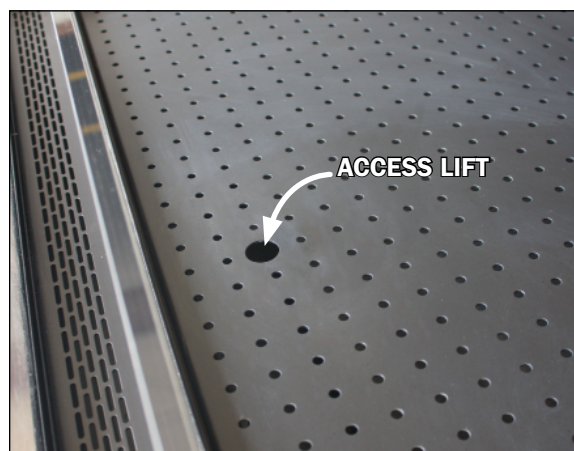

Fig. 9 Base deck pre-drilled access lift
2. To reach the fans and pressure plate first remove the base deck with help of the pre-drilled access lift supplied (Fig. 9 & 10). **Note: It is recommended that more than one person lift the deck.**